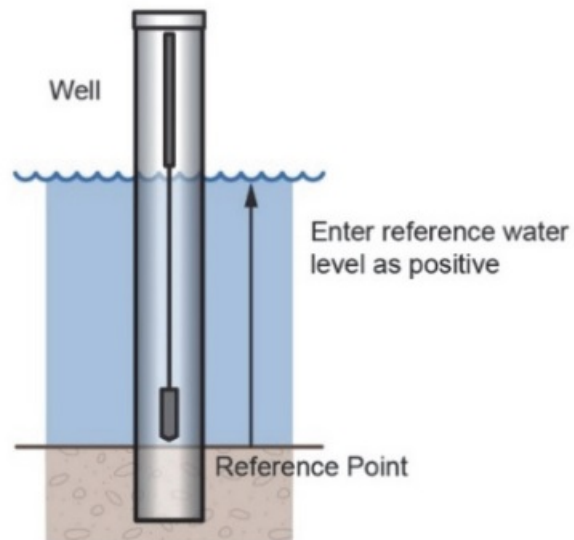

Figure 2: Water level is above reference point
- Note this as a positive number if the water level surface is above the reference point, such as the bottom of the stream or the zero on a staff gauge (**Figure 2**).